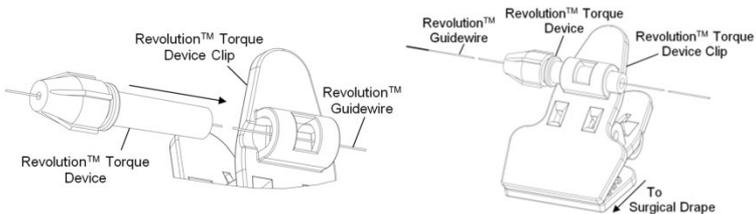

Figure 9: Tighten torque device to guidewire
- Clip the Torque Device Clip to the surgical drape and slide the torque device into the slot on the Torque Device Clip as shown in Figure 9. **WARNING: Ensure that the torque device is appropriately tightened and that it will not spin in the Torque Device Clip.** Replace the torque device if it is not firmly secured in the Torque Device Clip. The torque device should be tightened as close to the handle as possible and is **NOT to exceed 10cm (4in)**. **Precaution: Monitor the smooth tracking of the drive shaft over the guidewire during operation. If resistance is encountered during the procedure, remove the Revolution™ Peripheral Atherectomy System and flush the system.**